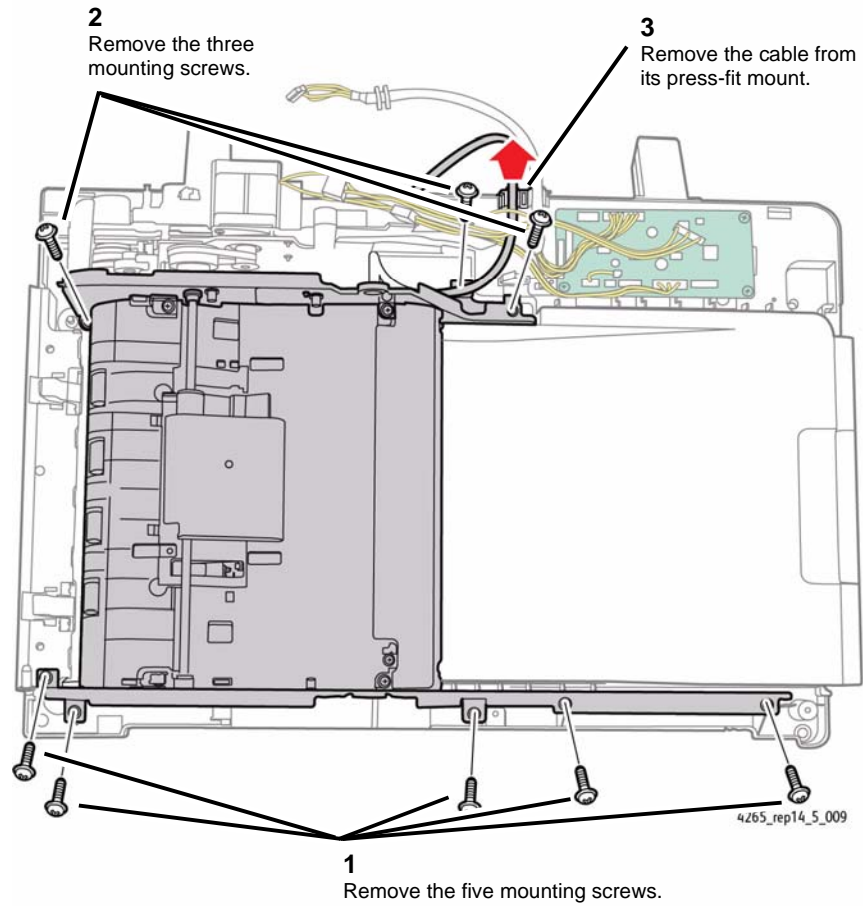

Figure 8 Preparing to Remove the DADF Sub Assembly
12. Prepare to remove the DADF Sub Assembly (Figure 8).